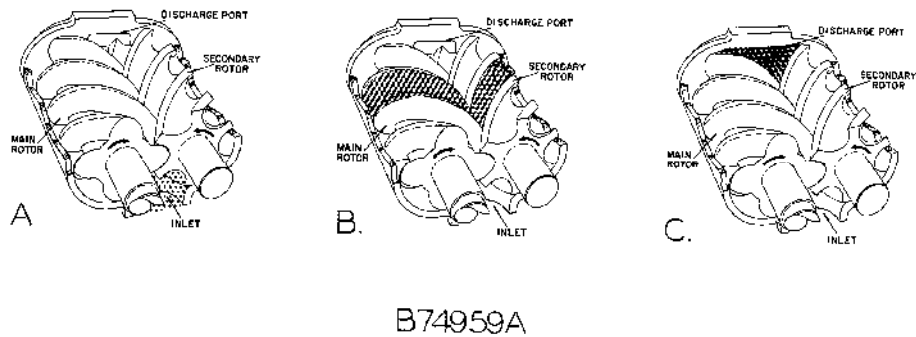

Figure 1-1 – COMPRESSION CYCLE
COMPRESSION PRINCIPLE (Figure 1-1) - Compression is accomplished by the main and gate rotors synchronously meshing in a one-piece cylinder. The main rotor has four (4) helical lobes, 90° apart, which mesh with five (5) helical grooves, 72° apart, on its matching gate rotor.
The air inlet port is located on top of the compressor cylinder near the drive shaft end. The discharge port is located near the bottom at the opposite end of the compressor cylinder. *Figure 1-1 is an inverted view to show inlet and discharge ports.* The compression cycle begins as the rotors unmesh at the inlet port and air is drawn into the cavity between the main rotor lobes and gate rotor grooves (A). When the rotors pass the inlet port cutoff, air is trapped in the interlobe cavity and flows axially with the meshing rotors (B). As meshing continues, more of the main rotor lobe enters the gate rotor groove, normal volume is reduced and pressure increases.